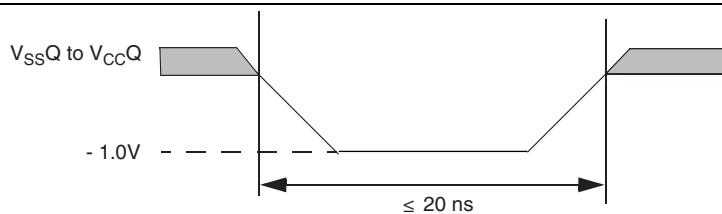
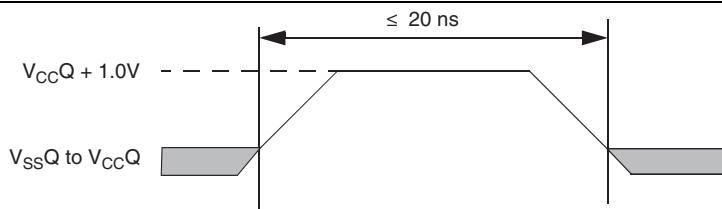

Figure 21 Maximum negative overshoot waveform
Figure 22 Maximum positive overshoot waveform
83. Minimum DC voltage on input or I/O signal is -1.0 V. During voltage transitions, input or I/O signals may undershoot V_{SS} to -1.0 V for periods of up to 20 ns. See Figure 21. Maximum DC voltage on input or I/O signals is V_{CC} + 1.0 V. During voltage transitions, input or I/O signals may overshoot to V_{CC} + 1.0 V for periods up to 20 ns. See Figure 22.